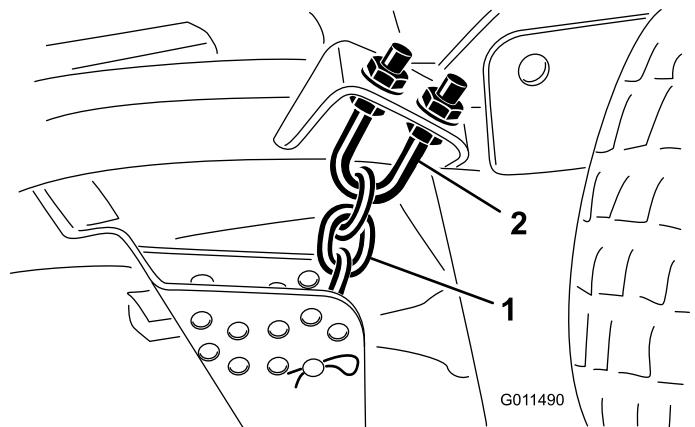

Figure 78
3. Remove the hairpin cotter and clevis pin securing the height-of-cut chains to the rear of the cutting unit (Figure 78).